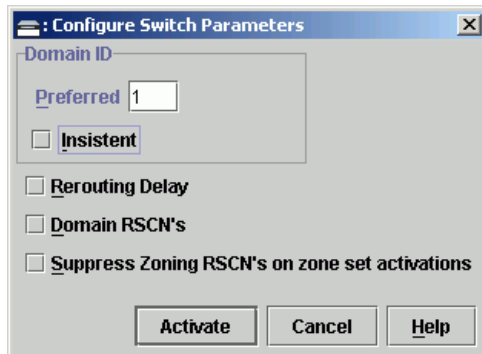

Figure 2-85 Configure Switch Parameters Dialog Box
2. At the *Hardware View*, select *Operating Parameters*, then *Switch Parameters* from the *Configure* menu. The *Configure Switch Parameters* dialog box displays (Figure 2-85 on page 2-91).